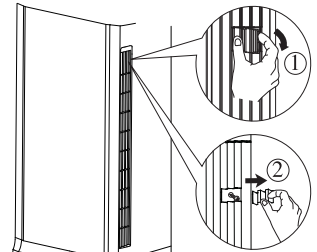

Fig. 1
Open screw caps at both sides according to direction ① in fig. 1. Remove the screws at both sides of air-in panel with screwdriver.